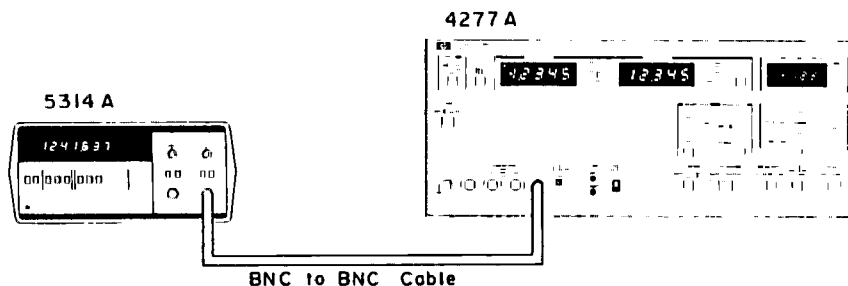

Figure 4-1. Test Frequency Accuracy Test Setup.
1. Connect the frequency counter to the 4277A UNKNOWN input terminal as shown in Figure 4-1.